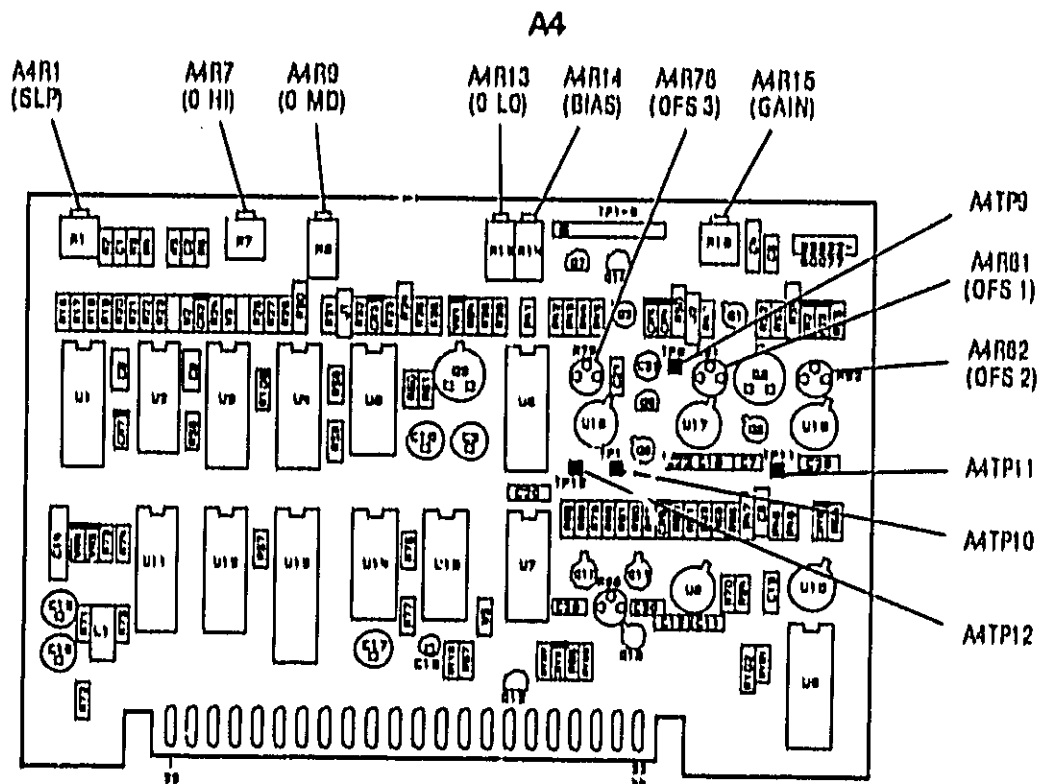

Figure 5-18. ALC Adjustment Locations
2. Float the ground on the Digital Voltmeter and measure the voltage between A4TP9 and A4TP10. Refer to Figure 5-18 for adjustment locations. Adjust A4R81 (OFS 1) for  $0.000 \pm 0.001$  Vdc.